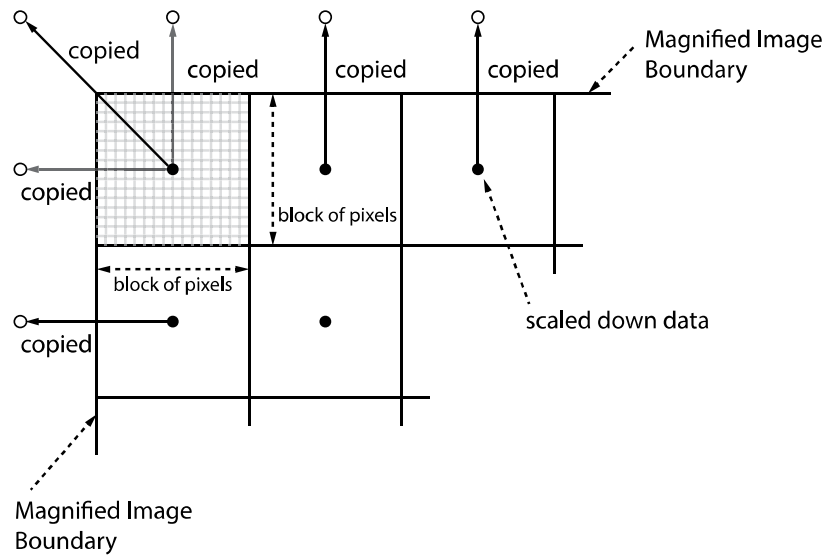

Figure 9-10 Bilinear Interpolated Magnification
3. Execute the Flat Field Data Save parameter to save the generated Flat Field data into the non-volatile memory. When the scaled down Flat Field data are used for correction, they are expanded and applied with a Bilinear Interpolation as shown in the Figure 9-10.